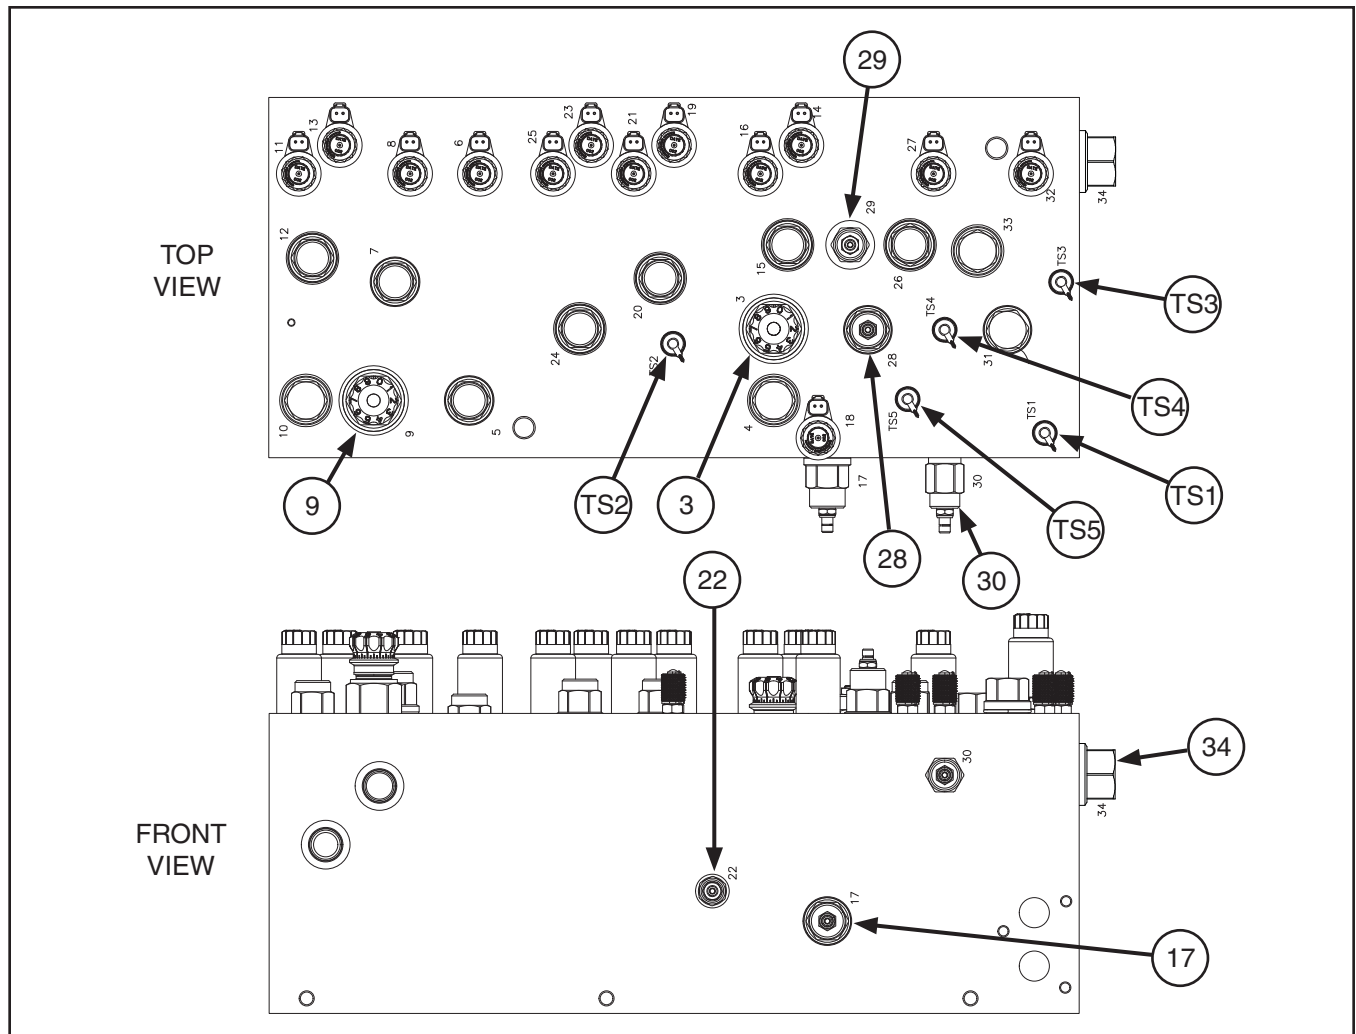

Figure 39 - Hydraulic Manifold Valve & Test Port Locations
- See "Figure 39 - Hydraulic Manifold Valve & Test Port Locations" on page 43 for valve and test port locations.